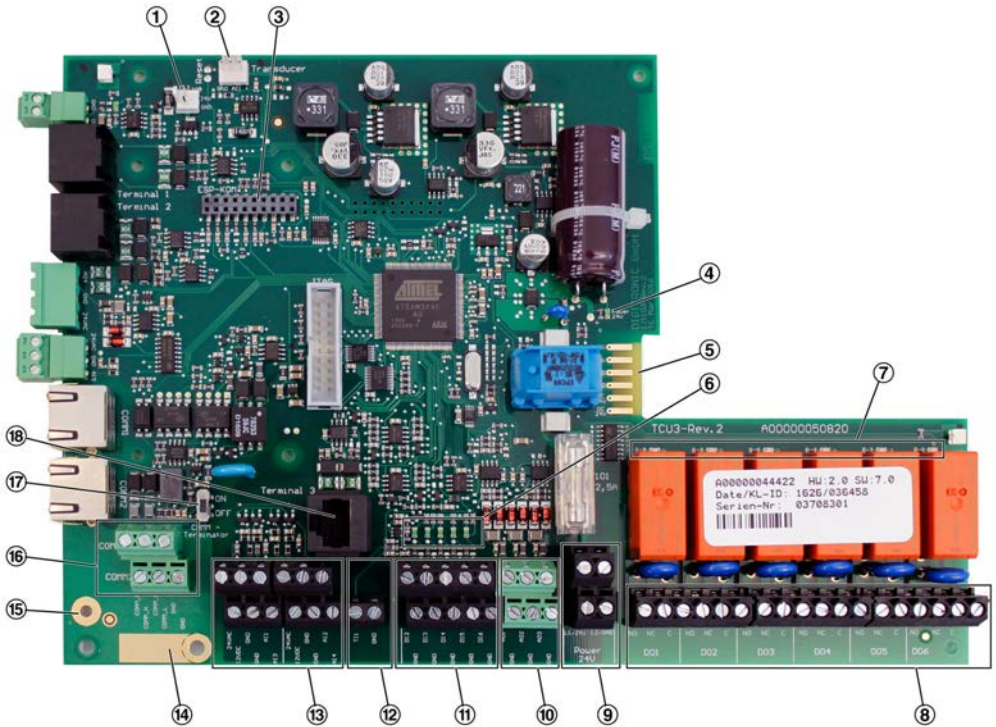

Fig. 4: Interfaces and signal lamps on the PCB
| Valve (1) | - Connection to 'Valve' (Fig. 4/1) |
| Diaphragm pressure transducer (2) | - Connection to 'Transducer' (Fig. 4/2) |